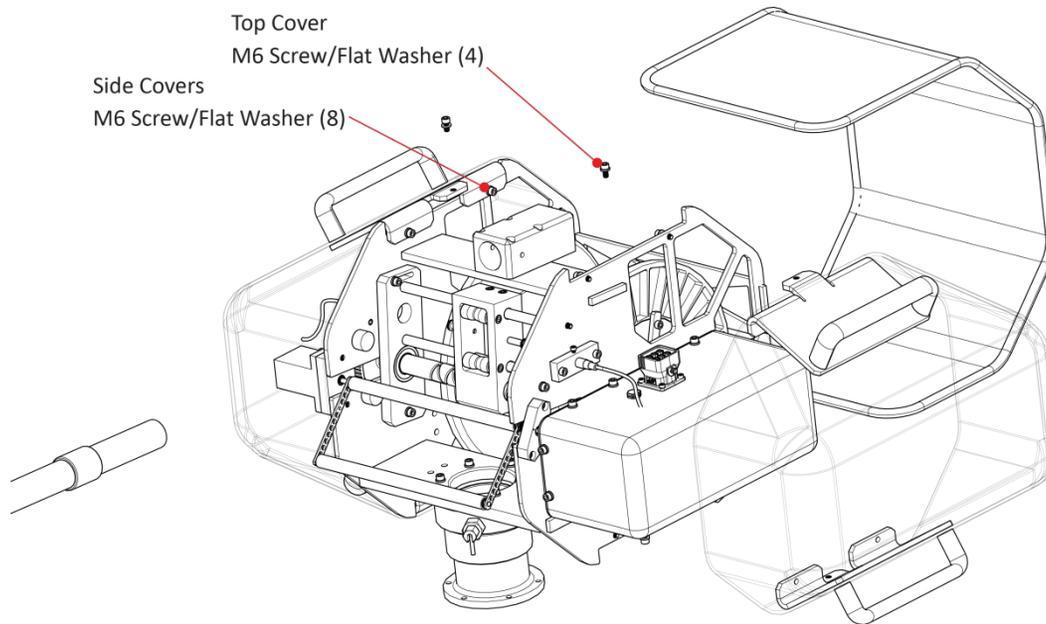

Figure 13. Removing the Winch Assembly Covers
1. Route all five (5) cables through the cable routing hole. Ensure that the cables do not interfere with the motion of the spool, LevelWind, or tension arm.
6. Use Figure 13 to re-install the winch assembly covers.